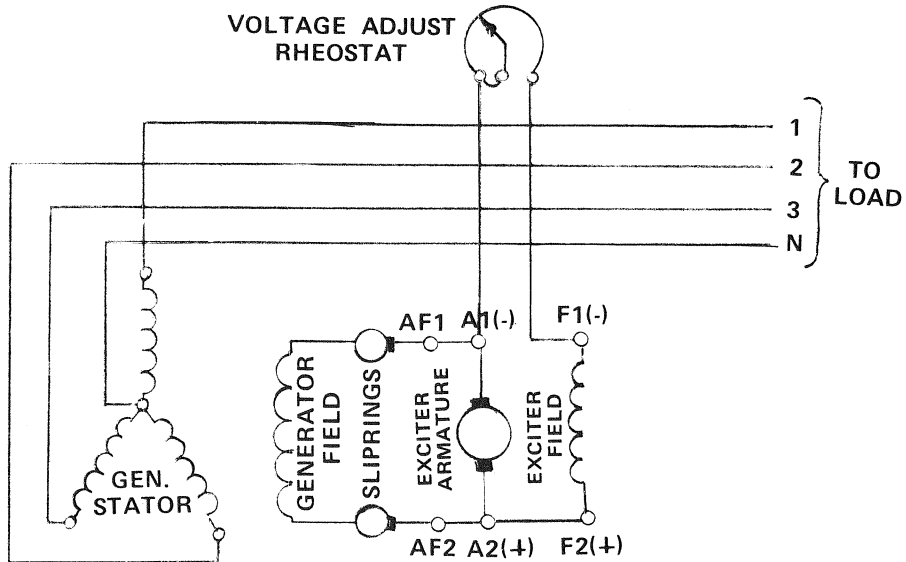

FIGURE 1-4 REVOLVING FIELD GENERATOR WITH DIRECT CONNECTED BRUSH TYPE DC EXCITER – VOLTAGE INHERENTLY REGULATED.
1.2.3 Control of the generator output is normally accomplished by using a variable resistor or rheostat in the DC exciter shunt field. The voltage adjust rheostat normally allows adjustment of generator output voltage from approximately 90 percent to 110 percent of the nominal output voltage rating. See figure 1-4, page 3.